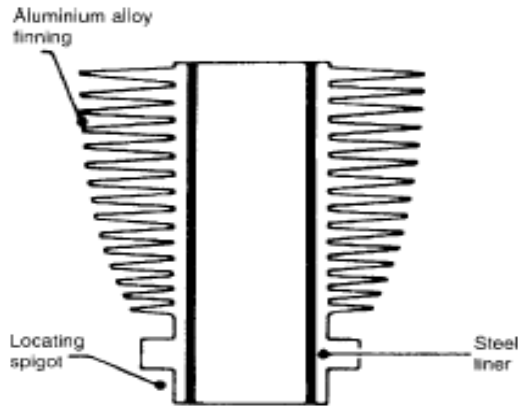

Fig.3: Air-cooled finned cylinder wall.
- ii. The surface area from which the heat is radiated (since (i) must be limited, the surface area of the cylinder and head exposed to the air must be increased, by forming fins on their external surfaces; Fig. 3).